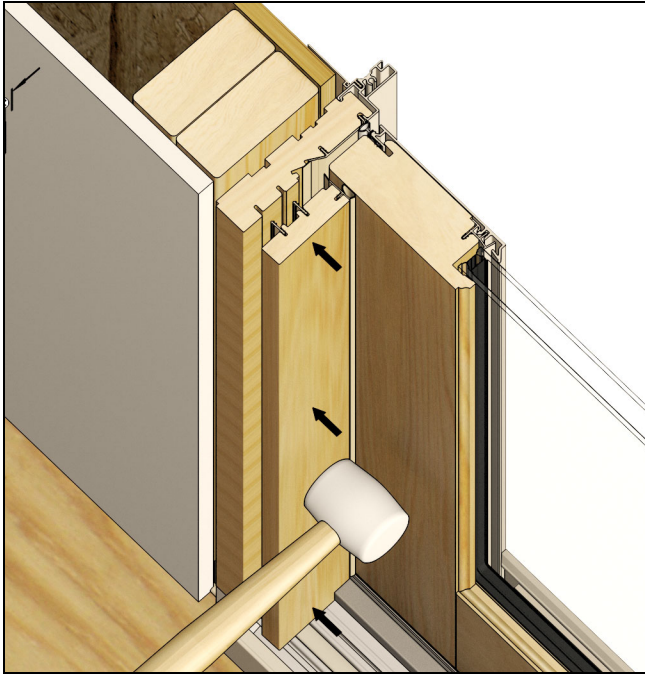

Figure 27
1. To install the interior wood covers, align the set of connecting barbs installed in the wood cover into the kerfs in the jamb. Use a rubber mallet, starting at the top and working your way down, to gently hammer the cover until it is fully seated. See Figure 27.